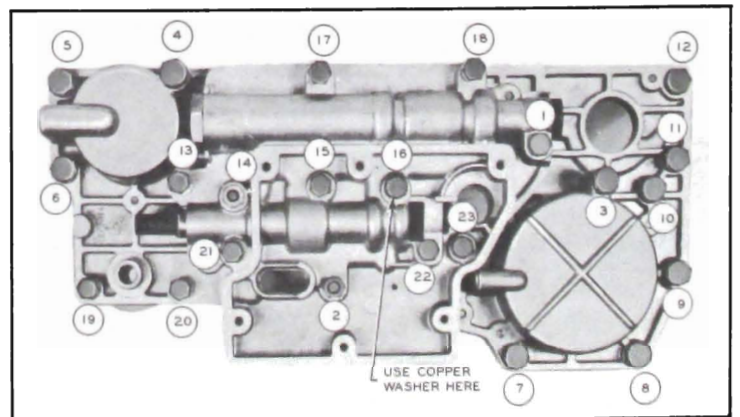

Figure 5-99—Valve and Servo Body Bolt Tightening Sequence
4. Install various length bolts with lockwashers according to depth of holes through valve and servo bodies. Use copper washer on bolt indicated in Fig. 5-99.
5. Tighten all bolts to 5 ft. lbs. torque in the numerical sequence shown in figure 5-99. Repeating the same sequence, tighten all $\frac{1}{4}$ " bolts and nuts to 11-15 ft. lbs. torque and all $\frac{5}{16}$ " bolts to 15-20 ft. lbs. While tightening bolts and nuts adjacent to the shift control valve, operate the valve to make certain that it is not binding—it may be necessary to adjust some bolts to low limit on torque to prevent valve binding.